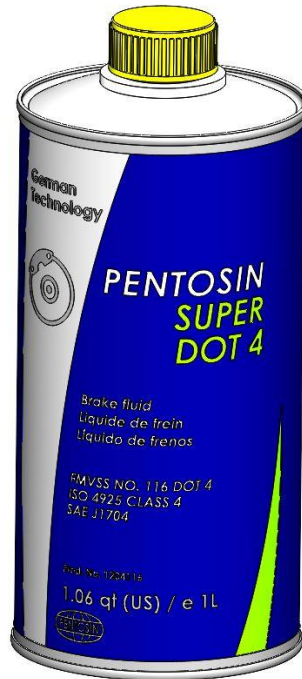

Figure 8 – Pentosin Super DOT 4
12. Once the master cylinder has been removed or replaced, make sure it is properly bench bled and then installed on the vehicle. Then the remaining brake system can be bled to remove all of the air from the system. **REMEMBER:** Master Power Brakes requires the use of either DOT 3 or DOT 4 brake fluid. We Recommend the use of Pentosin Super Dot 4 fluid as seen below in Figure 8 (**Available at Master Power Brakes P/N: ACJ1703**).